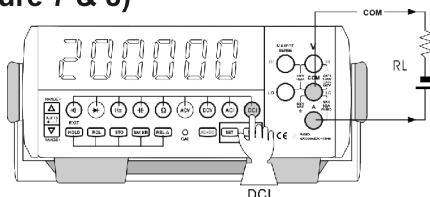

Figure 7
3. DC/AC Current Measurement (See Figure 7 & 8)